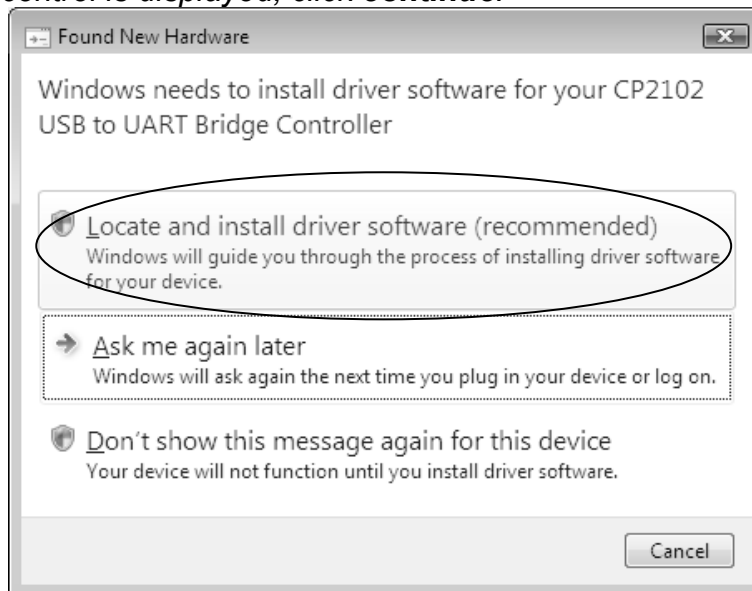

Fig. 44 New Hardware search wizard
(6) Connect the USB cable of the racing I/F BOX(J926031-0025) to the PC with the driver installed.
(7) The search wizard of new hardware is started automatically as shown in Fig.44 appears. Select "**Locate and install driver software (recommended)**".